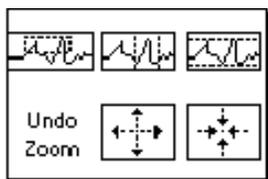

Figure 6. Available zoom modes
- Click on the **Zoom tool** to zoom in on a section of the graph by dragging a selection rectangle around that section. Clicking on this tool opens a pop-up menu for selecting the zooming method (See Figure 6).